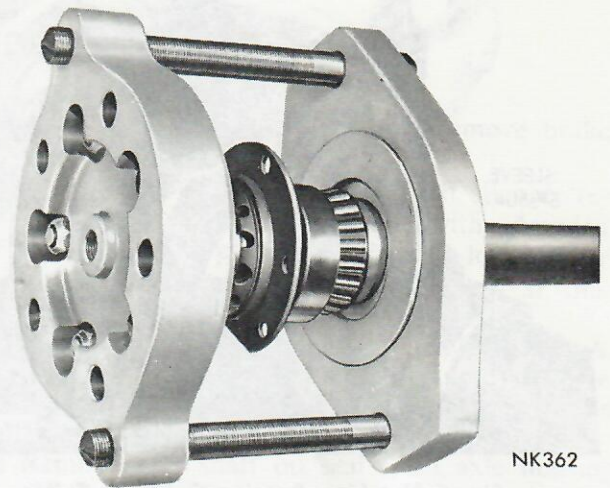

Fig. 13 Installing New Bearing and Collar.
(1) Install retainer plate and seal assembly on axle shaft.
(2) Lubricate wheel bearings with Multi-Purpose Grease NLGI Grade 2 EP.
(3) Install a new axle shaft bearing cup, cone and collar on shaft using Tool C-3971-A (Fig. 13) and tighten bolts of tool alternately until bearing and collar are seated properly.
(4) Inspect axle shaft seal journal for scratches and polish with No. 600 crocus cloth if necessary.